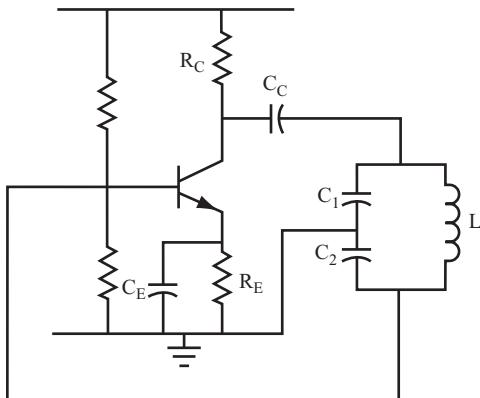

FIGURE 9.16
- 22** Figure 9.16 shows a Colpitts oscillator circuit that uses a different method for making feedback connections between the parallel LC circuit and the transistor.
- 23** In the circuit shown in Figure 9.16, capacitor C_E should have a reactance of less than 160 ohms at the oscillation frequency. If the emitter resistor R_E is smaller in value than $1.6\text{ k}\Omega$, then C_E should have a reactance that is less than $R_E/10$ at the oscillation frequency.